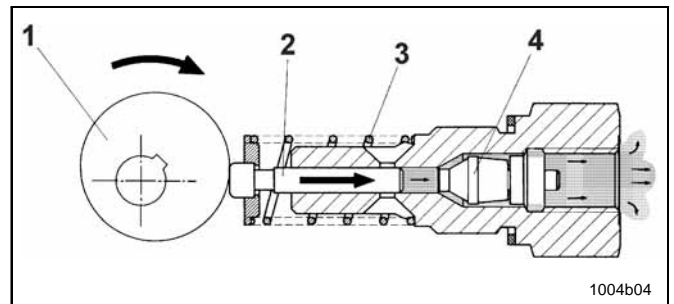

Fig. 8 The pump element dispenses lubricant
- piston 2 dispenses the lubricant to the connected lubrication points via the metering device (see Fig. 8).